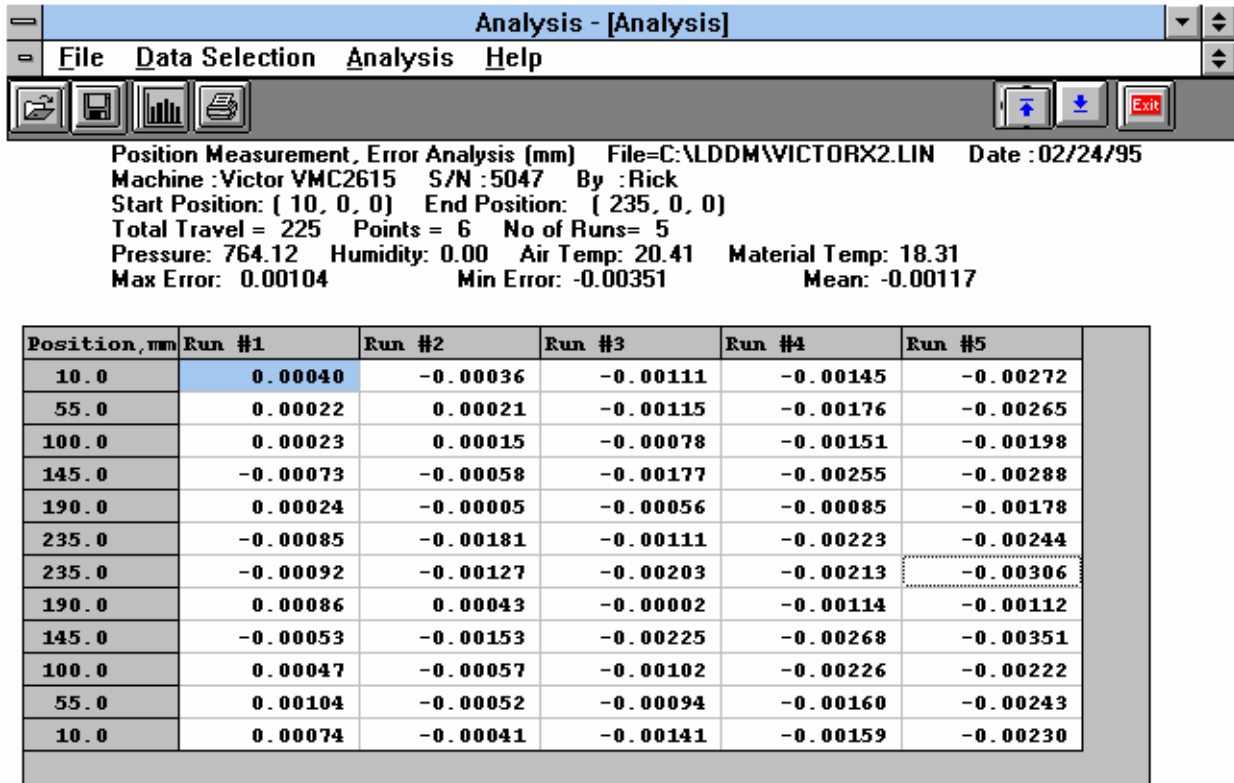

Fig. 4-4 Linear Measurement Data Analysis Table
4.4 Linear Data Analysis Menu (Fig. 4-4)